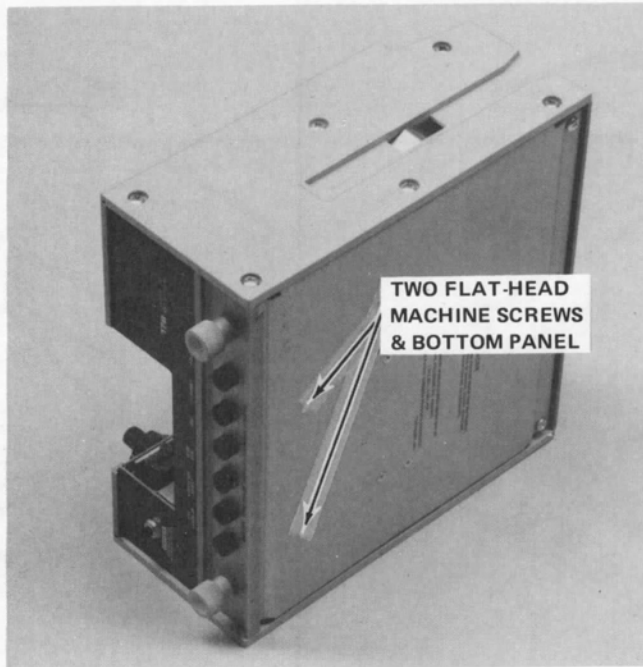

Fig. 4-10. Location of the screws securing the storage compartment shields.
1. Remove the two flat-head machine screws (Fig. 4-10) from the bottom panel.